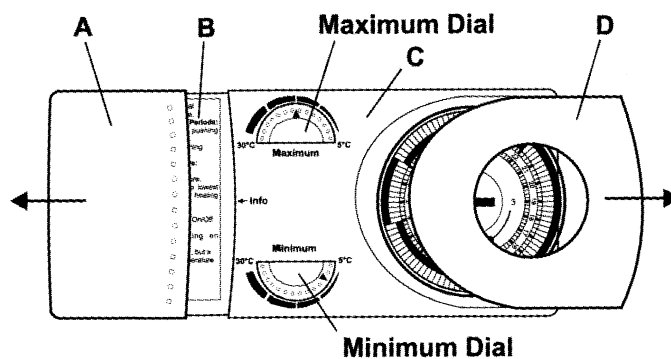

Fig. 5
5. User Instructions - see Fig. 5